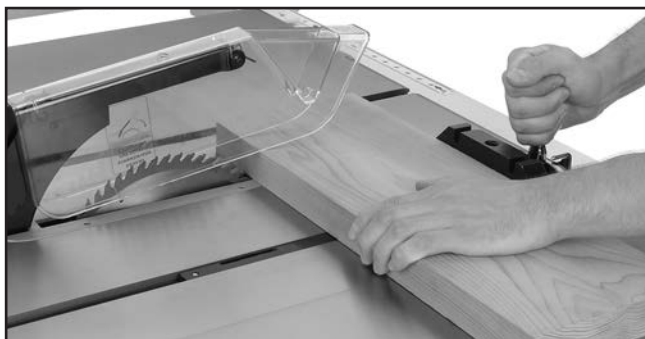

Figure 42. Typical crosscutting operation.
7. Hold workpiece firmly against face of miter gauge (as shown in **Figure 42**), and ease it through blade until workpiece is completely past saw blade.